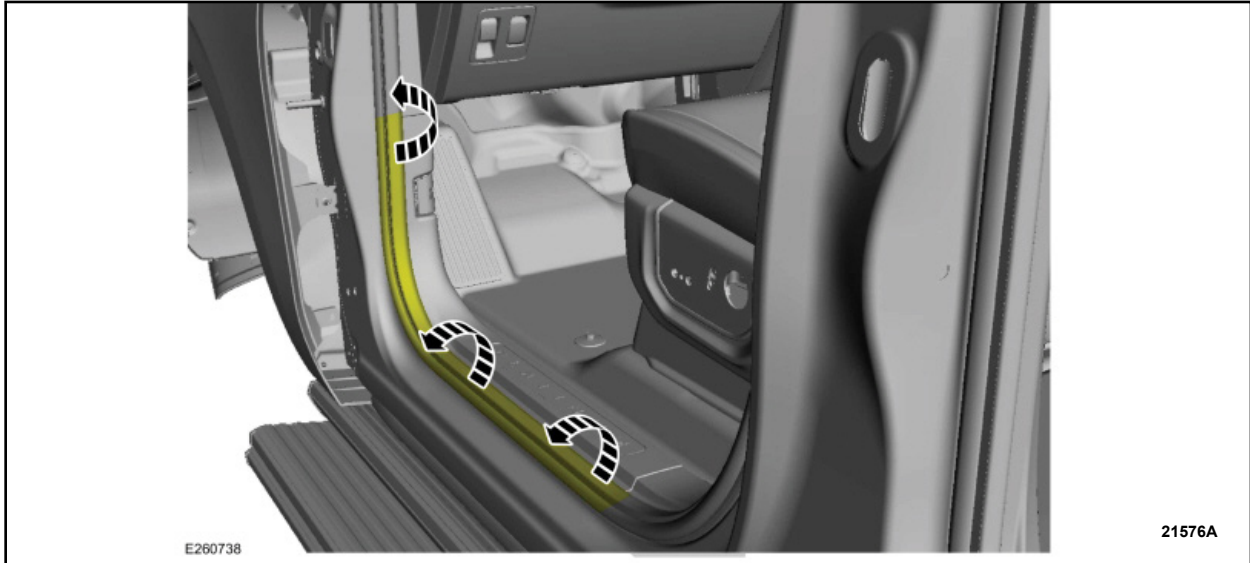

FIGURE 9
1. Position the front door weatherstrip aside. See Figure 9.